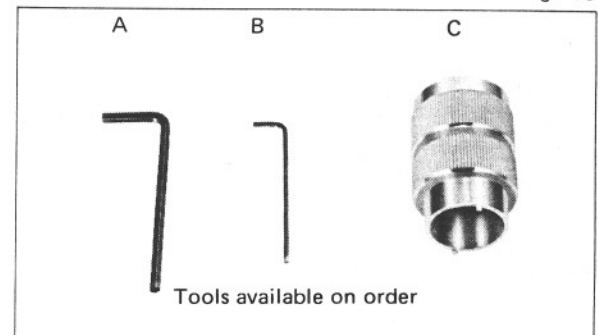

Fig. 11
**Note:** The tools A, B and C (Fig. 11) are not included in the microscope set. If necessary, purchase them independently.